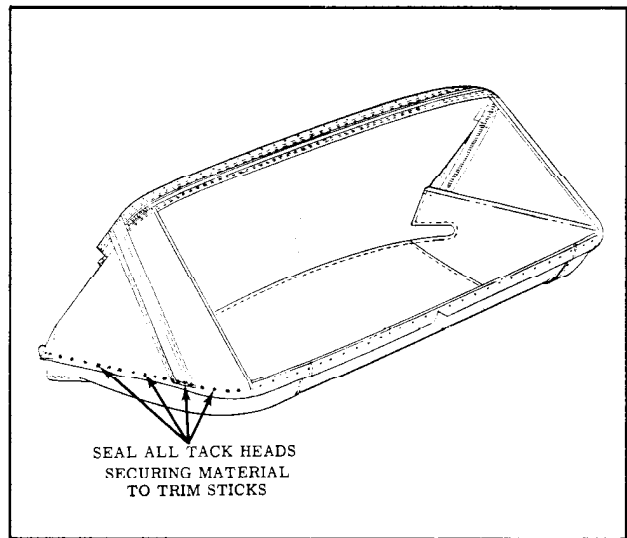

Fig. 15-99 Back Curtain Sealing
23. Apply convertible top sealer (nitrile) around each tack head used to secure back curtain material and webbing to rear and/or rear quarter trim sticks. (Fig. 15-99)